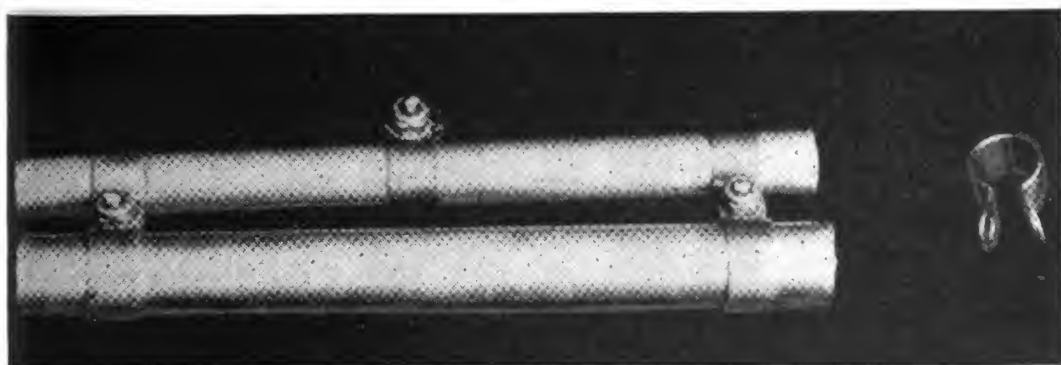
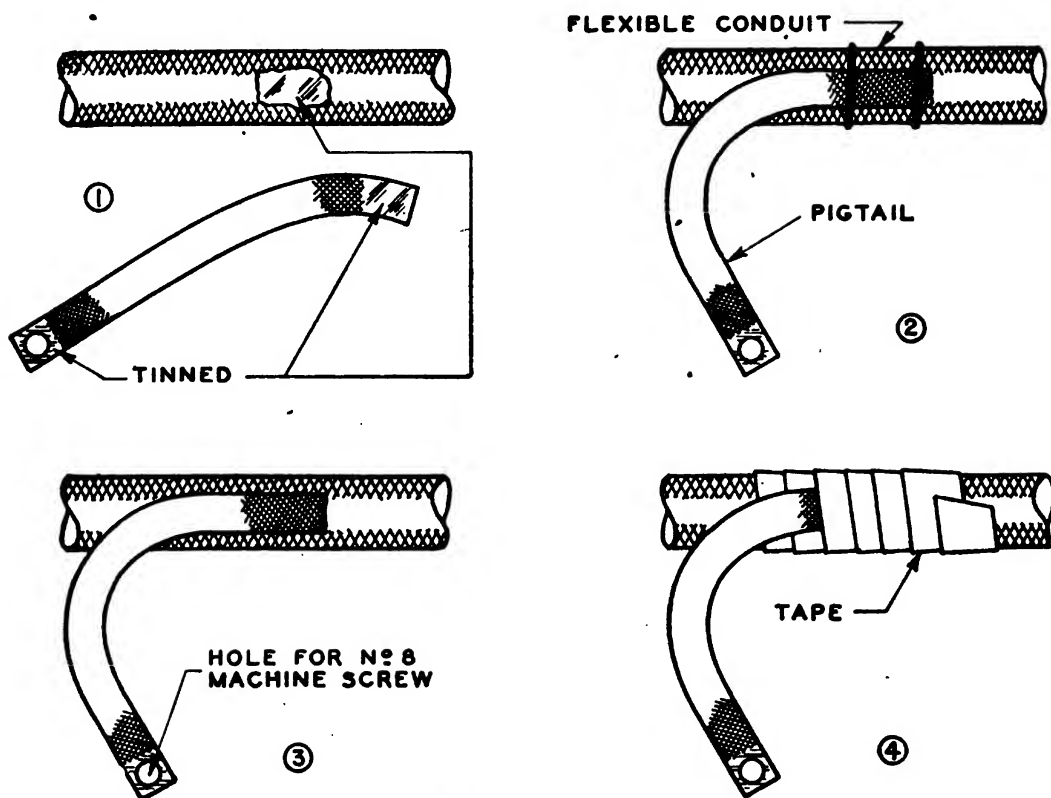

FIGURE 60.—Bonding clamp.
FIGURE 67.—Bonding pigtail.
*g. Clamp, bonding, class 04-A.*—This simple clamp fits around the proper size conduit. It is used for bonding the tubing to the airplane structure and also to prevent vibration by bonding two or more parallel conduits together. (See fig. 60.)
*b. Installing bonding pigtails* (procedure does not apply to new type aluminum covered flexible conduit).—(1) With a hot, well tinned iron, spot the shielding over about  $\frac{1}{4}$  inch and not exceeding the width of the bonding strip. (See fig. 67①.) Use rosin core solder wherever possible.
(2) Clean the spot with carbon tetrachloride in order to remove the excess flux.
(3) Tin the end of the bonding strip over a distance not to exceed  $\frac{3}{8}$  inch. (See fig. 67①.) Clean with carbon tetrachloride and place the tinned end of the pigtail over the spotted place of the cord or conduit lengthwise. By means of two wrappings of No. 26 soft copper wire, make the connection as tight as possible. (See fig. 67②.)
(4) Sweat the tinned end of the pigtail to the cord or conduit with a hot iron, using the solder which has been used for the tinning and spotting. Do not use any additional solder. Be careful not to burn the insulating material under the shielding. The connection must be as tight as possible so no excess solder will separate the shielding and the pigtail and form a high resistance connection. For radio installations the pigtail should never have a resistance of more than .001 ohm.
(5) Remove the No. 26 wire wrappings. (See fig. 67③.) Tape and shellac the entire length of any cord or flexible conduit in order to prevent metallic contact. (See fig. 67④.)
(6) Tin about  $\frac{1}{2}$  inch of the free end of the pigtail and punch or drill a hole in it to accommodate a No. 8 machine screw.
(7) Rigid conduit is bonded by use of special bonding clamps. (See fig. 60.)